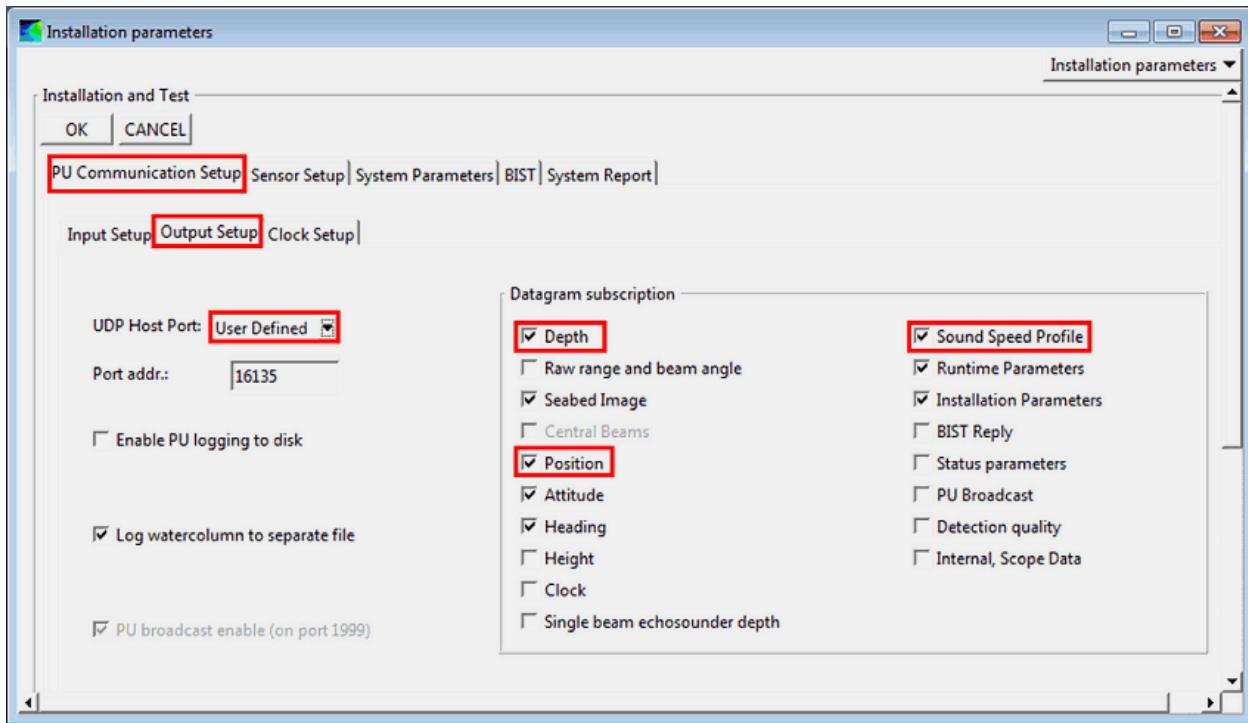

Fig. 2.7: *SIS Installation parameters* dialog, with key settings in red for *Method A: Sound Speed Manager and SIS v4 Installed on the same Computer*.
- Access the *Installation Parameters* dialog (see Fig. 2.7) from the *View* menu by choosing *Tear off* and then *Installation Parameters*